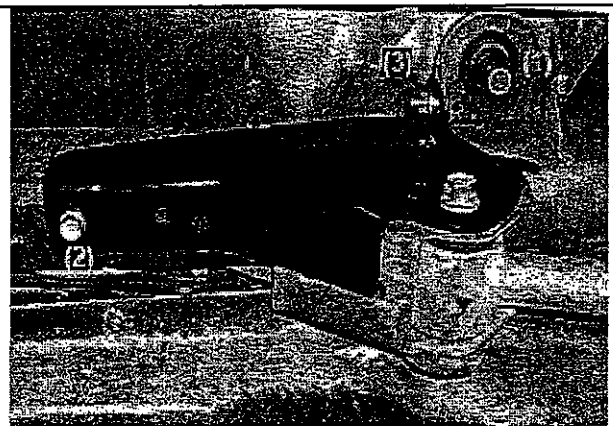

Figure 16: Driver side temporary installation (2000-2002MY only)
NOTE: Some 2000MY vehicles' frames already have a nut welded into the driver side frame at location 2 in Figures 16 and Figure 17. For 2001 and 2002MY vehicles this location is for the fuel tank protector. DO NOT DRILL THIS LOCATION IF A WELDED NUT IS PRESENT
9. Drill final holes for Pop-nuts using a 33/64" drill bit. Some 2000MY vehicles' frames already have a nut welded into the driver side frame at location 2 in Figure 16. For 2001 and 2002MY vehicles this location is for the fuel tank protector. **DO NOT DRILL THIS LOCATION IF A WELDED NUT IS PRESENT.**